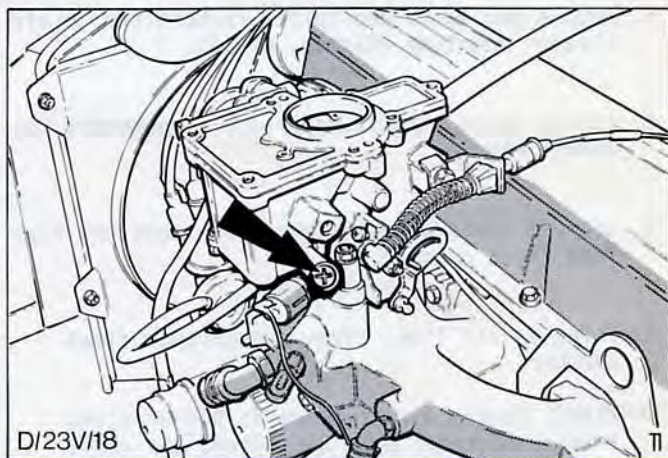

Fig.43. Mixture screw tamper-proof plug.
7. Using a thin bladed screwdriver carefully prise out mixture screw tamper-proof plug, Fig.43.